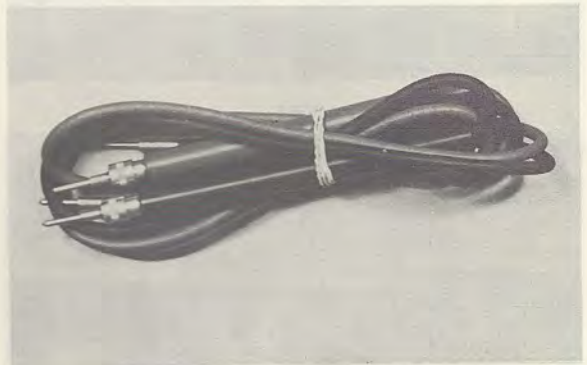

Fig. 2-26
3. The test leads you have just assembled are for use with your multimeter. Do not take them apart. When they are not in use, you might fold them as shown in Fig. 2-26.